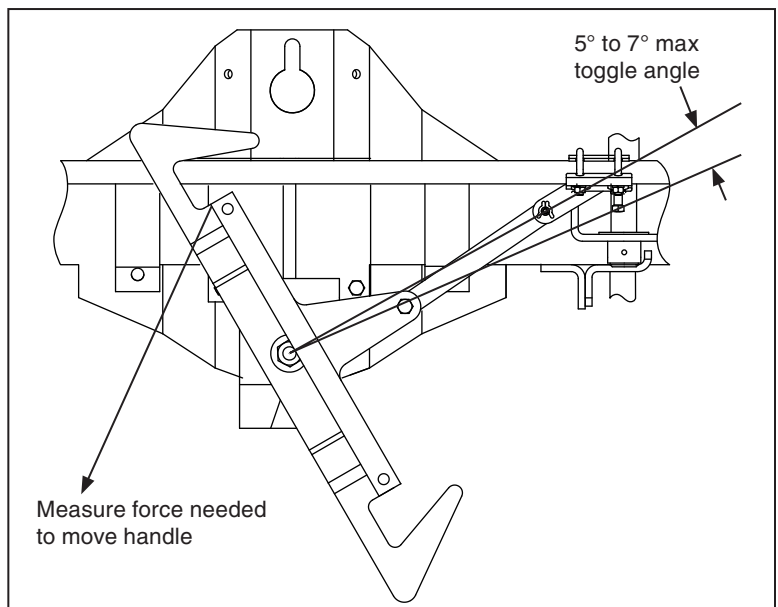

Figure 15. Handle and linkage in toggled position.
- In the closed position, the operating handle and linkage should be in toggle as shown in Figure 15. There should be 25-35 pounds of force required to move the handle out of toggle.